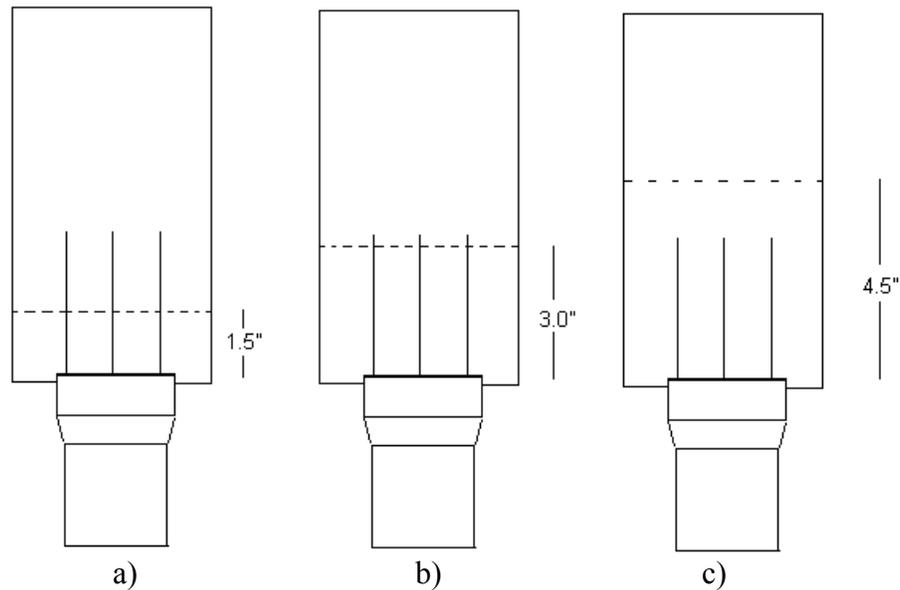

Fig. 1- Compact Soil inside the container, ideal height after compaction (distance are only as a recommendation, small variations would not affect results).
4. The sensor should be attached inside the container. Screws should be used to fix the sensor to the container. Turn on the instrument and select the “Direct Mode”. The container has to be filled in three layers one on top of the other (as shown in Fig. 1). Use the compactor tool and applied ten or more blows per layer, the compactor tool should compact the soil until the AquaProbe direct reading reaches a stable maximum value (readings should be stable after 3 or 5 blows with the compactor tool resting on the soil), desire height 1.5” (3.8 cm) after compaction. The second layer should be approx. 3 inches (7.5 cm) thick (after compaction), leaving exposed just the tips of the prongs. The third layer should cover the sensor’s prongs by approx. 1 inch (2.5 cm) after compaction. After compaction, the sensor should be covered by approx. 1 inch (2.5 cm).
4. The sensor should be attached inside the container. Turn on the instrument and select the Direct Mode. The container is going to be filled in three layers one on top of the other (as shown in Fig. 1). First, place the soil needed for the first layer, lift up the container 3 inches of a hard surface and drop the container one time carefully with the AquaProbe on the bottom. Then, use the compactor tool and applied ten blows per layer, the compactor tool should compact the soil until the AquaProbe direct reading reaches a stable maximum value (readings should be stable after 3 or 5 blows), desire height 1.5” (3.8 cm) after compaction. Then, place the soil needed for the second layer, lift up the container 3 inches of a hard